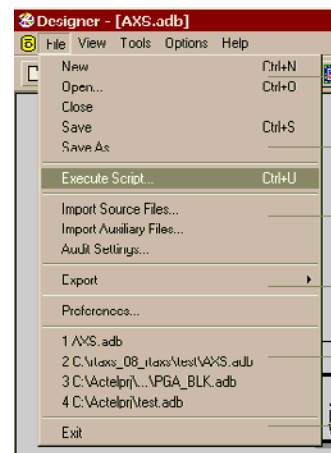

Figure 16 • File Menu Showing the Execute Script Command
2. Executing the script directly: Click on Execute Scripts as shown on Figure 16. Enter the path to the prototype.tcl script file, add any parameters as necessary, and click OK to generate the prototype .afm file. For more information, refer to Actel’s *Designer* online help.